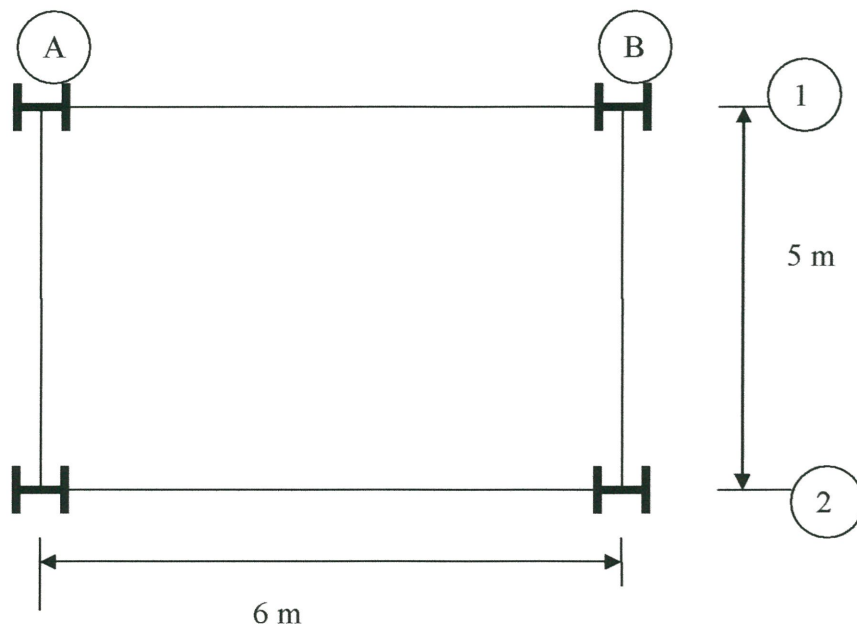

Figure Q3
- (b) **Figure Q3** shows a cast in-situ slab panel inside a building which is simply supported on steel beams on four of its sides. The size of the slab is 5 m x 6 m and the thickness is 175 mm. Given the following data: